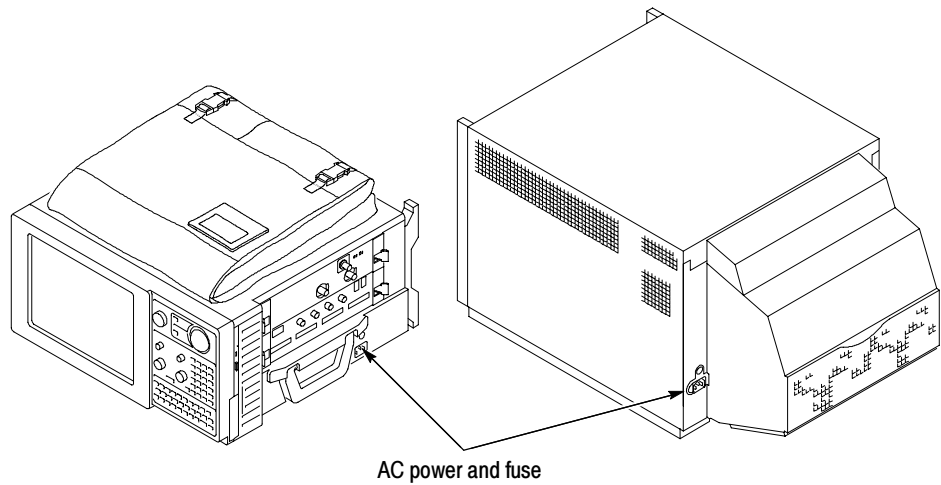

Figure 13: Line fuse and power cord connector locations
2. Connect the power cord. See Figure 13 on page 18.